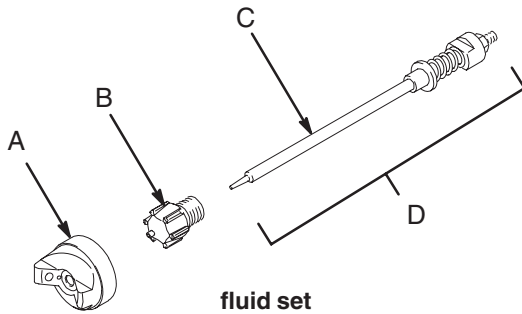

Fig. 11
Use this chart to determine Fluid Set for specific contractor application. See Fig. 11.
Use this chart to determine Fluid Set for specific automotive application. See Fig. 11.
Fluid sets include air cap (A), nozzle (B), and needle assembly (D). See Fig. 11.